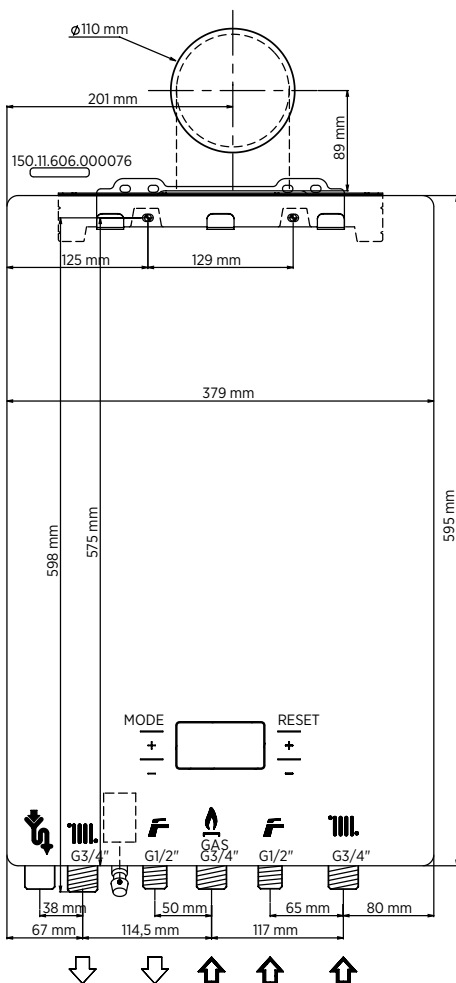

Figure 1 Installation scheme
I. Installation Scheme (Figure 1)